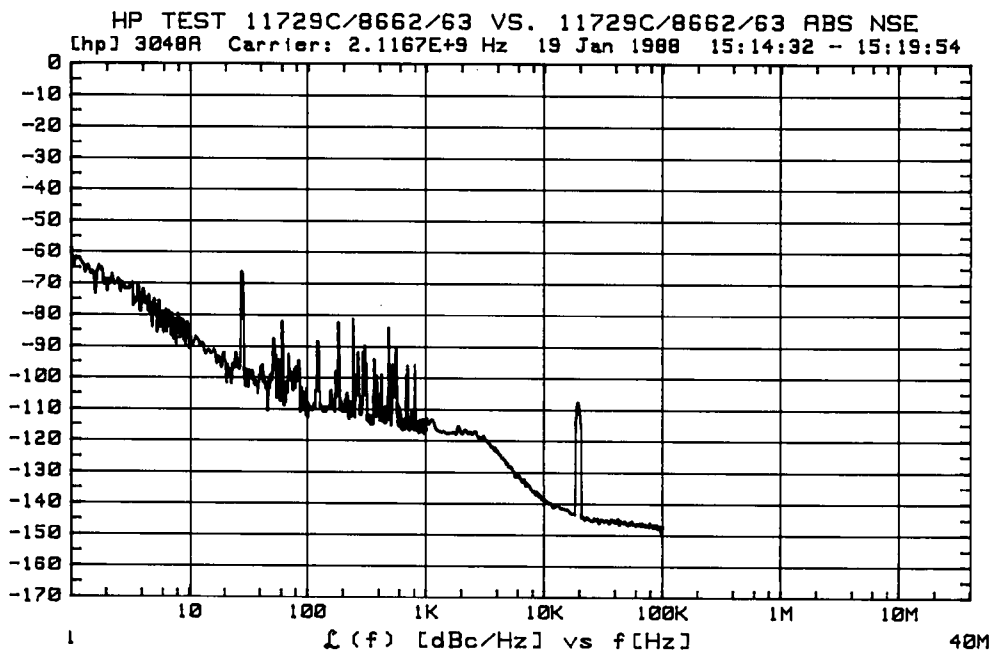

Figure 36. Typical Spectral Purity Tests Results
9. Press the **Proceed** softkey. The measurement should proceed automatically. The measured noise should be similar to that shown in Figure 36 and should be within the limits given in the following table.